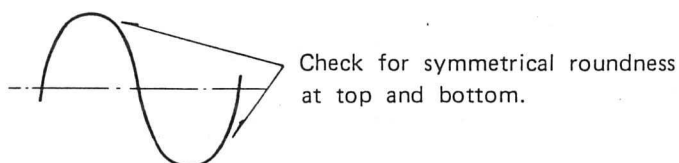
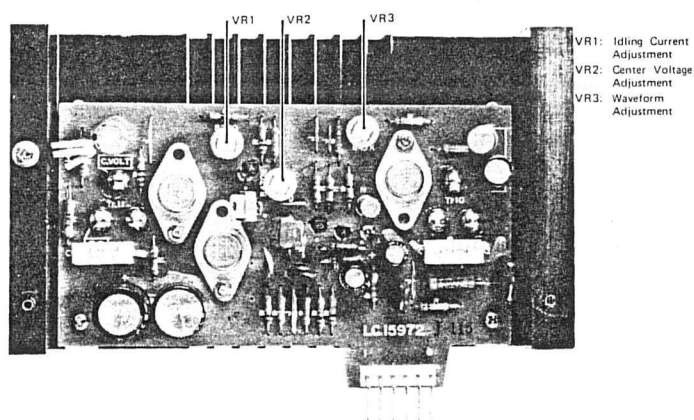

Figure 2. Output Waveform
Figure 3. MA Circuit Board
3. Adjust the VR3 as shown in Figure 3 to achieve a waveform which is symmetrically rounded like that shown in Figure 2.